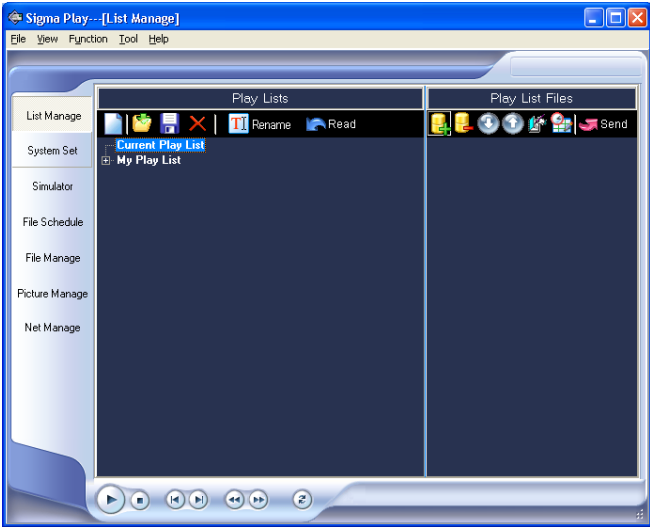
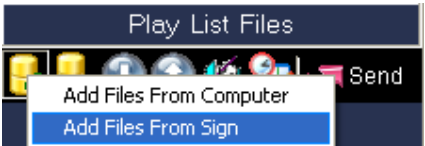

Fig. 5.49 List Manage
Fig. 5.50 Add List
Step 4: Display the designated file which has been sent. Open the Sigma software, enter List Manage as shown in Fig.5.49 , and click  , then the Play List Files like Fig.5.50 appears, choose “Add Files From Sign”, and another window like Fig.5.51 will appear. In this window, user can choose the designated files to display. The files ticked are added into the File Display List. After choosing display files, click  , then we can see the added files in Play List Files as shown in Fig.5.52. At last, click  , the Play list will be sent to the LED sign, then the LED sign will display these files.